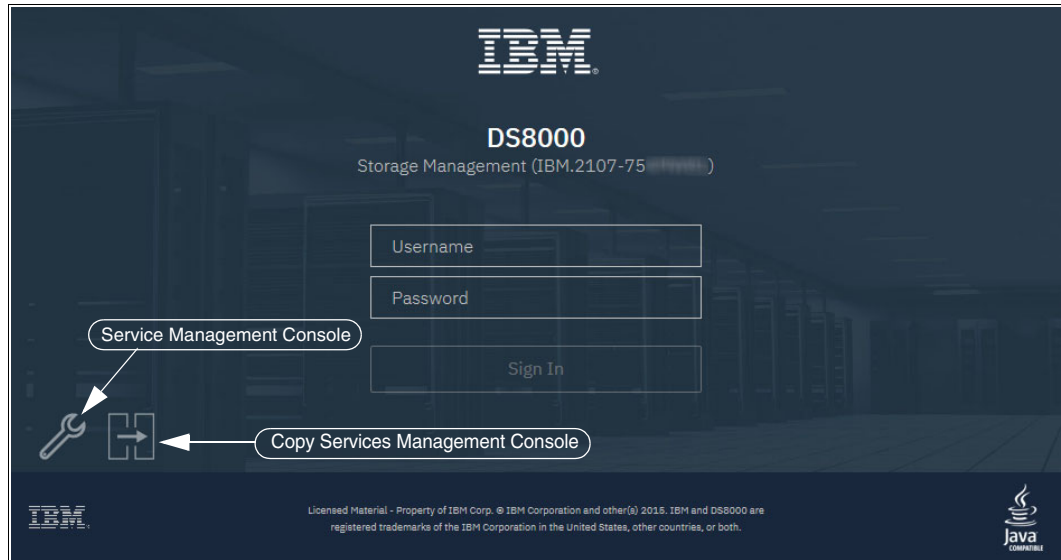

Figure 6-8 DS Storage Management GUI Logon window
1. Start the Storage Management GUI, as shown in Figure 6-8 on page 171. Click the **Service** icon (wrench) to access the Service Management Console (SMC).